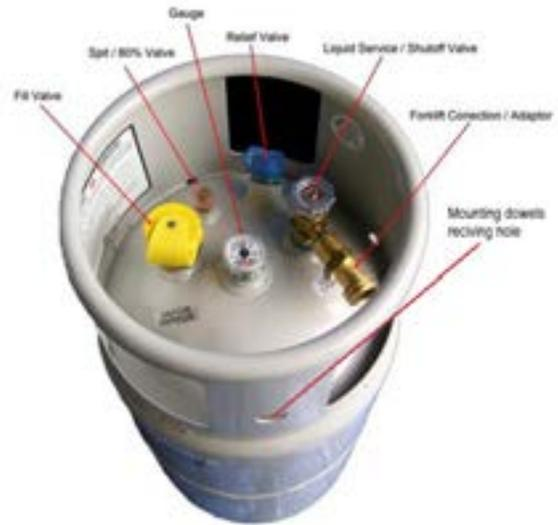

Figure 2
4. Changing a Cylinder (See Figure 2)